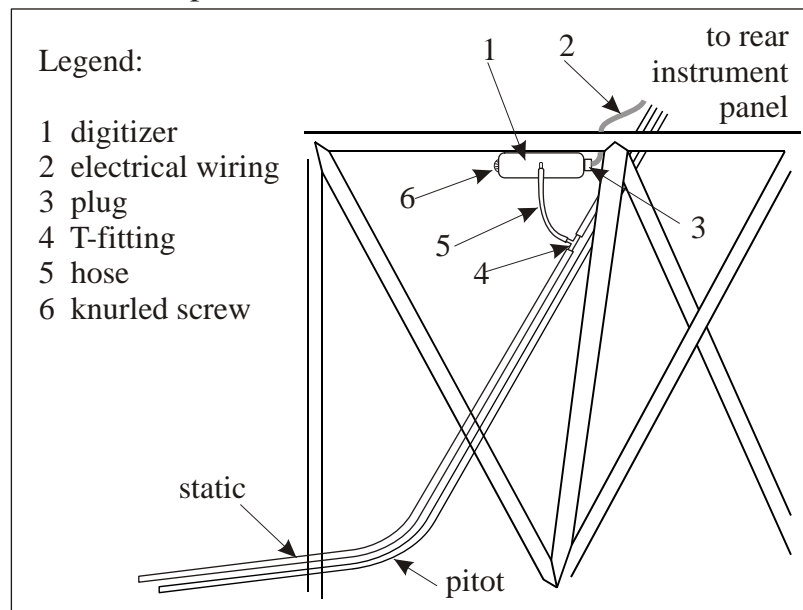

Figure 2
When a blind encoder is used it is installed under the left upper longeron just in front of the rear instrument panel. A mounting tray is attached to the steel tube frame by two bolts. The digitizer (1, Figure 2) is slid into the mounting tray and then fixed by a knurled screw (6). The knurled screw is secured by a wire. The static port of the digitizer is connected to the aircraft static system by a hose (5) ending at a T-fitting (4). The electrical wiring (2) is connected via a plug (3).
- 2 Disconnect the electrical wiring from the digitizer (1, figure 2) by pulling the plug (3).
- 3 Disconnect the hose (5) from the digitizer static port.
- 4 Remove the safety wire of the knurled screw (6).
- 5 Loosen the knurled screw and remove the digitizer (1).